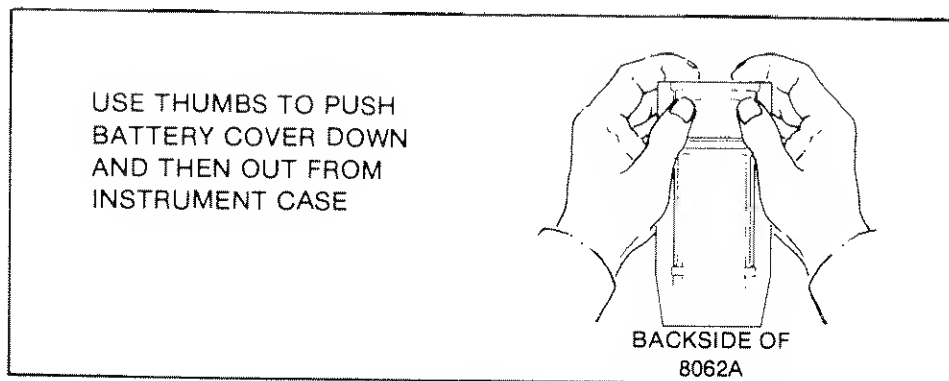

Figure 2-1. Removal of Battery Compartment Cover
3. Turn the instrument over and use your thumbs to pry off the battery cover as shown in Figure 2-1 (push cover down and then out).